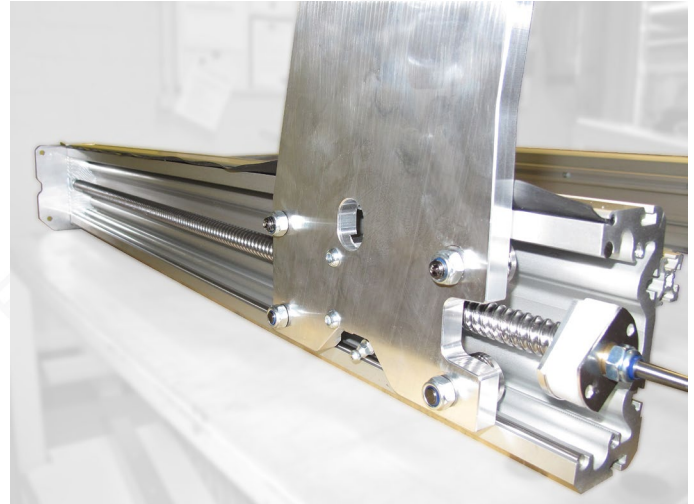

Fig.17: Installation of the right portal cheek
- Trace the right portal plate into the guide on the right side of the table, as shown in Fig. 17. To do this, loosen the screw connections of the eccentrics if necessary and turn them with an Allen key until the rollers run tension-free on the rails.
When installed, the beveled edge of the guide profile points upwards (see Figure 17).